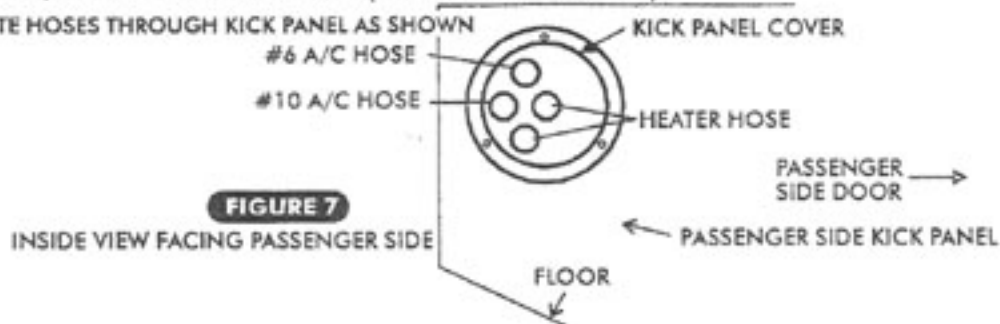
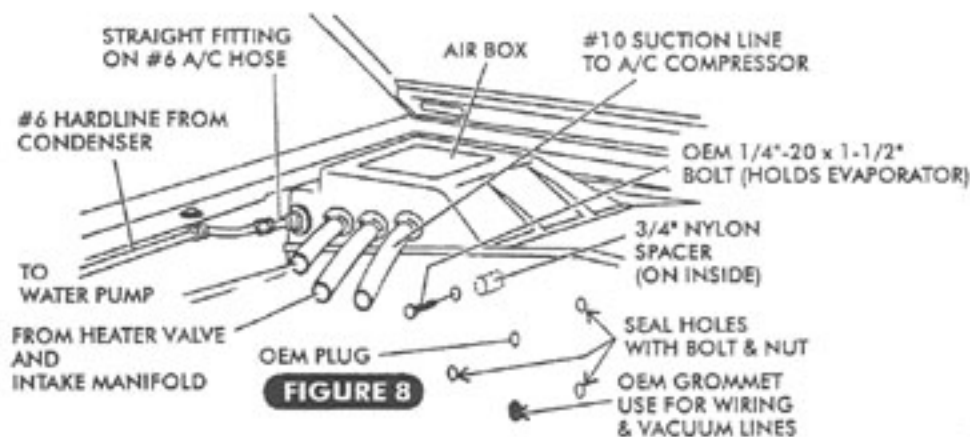
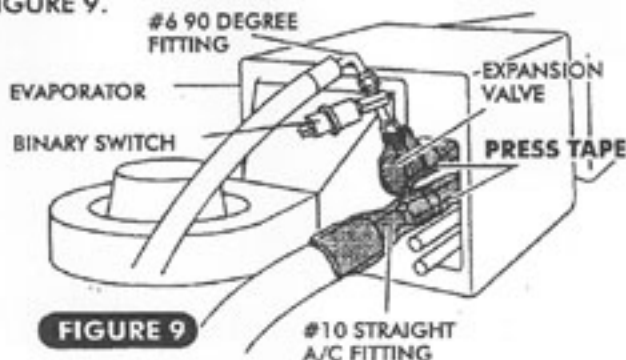
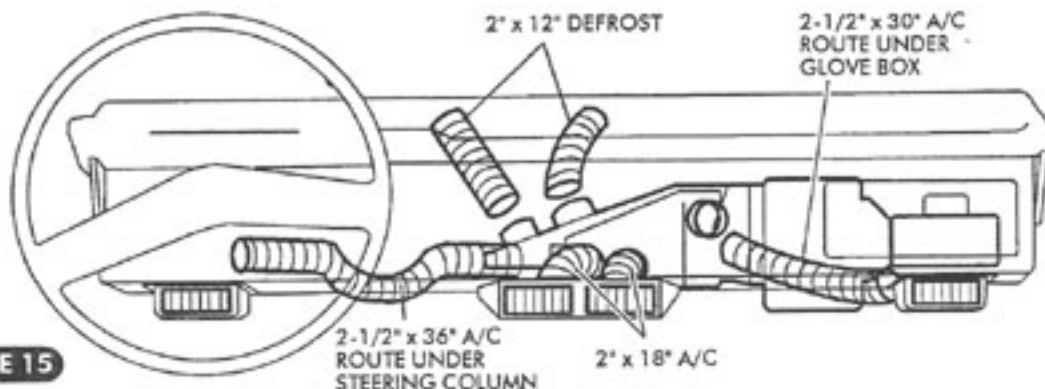

FIGURE 7
FIGURE 8
FIGURE 9
FIGURE 15
- LOCATE THE LARGE HOLE IN THE PASSENGER SIDE KICK PANEL. REACH INTO ENCLOSED AREA AND ENSURE DRAIN IS CLEAR. TRIAL FIT KICK PANEL COVER (SEE FIGURE 7) AND SECURE AFTER A/C HOSES ARE ALIGNED (SEE NEXT TWO STEPS).
- IT IS NECESSARY TO INSTALL AND ALIGN THE A/C AND HEATER HOSES BEFORE INSTALLING THE EVAPORATOR. SEE HOSE KIT INSTALLATION SECTION (PAGE 9) FOR ADDITIONAL INFORMATION. SEE FIGURES 7, 8 (PG. 4) & FIGURE 9 (PG. 5).
- LOCATE THE (SMALL) #6 HOSE. LUBRICATE 90 DEGREE FITTING AND O'RING (SEE FIGURE 16 ON PG. 7) AND CONNECT TO THE LIQUID LINE ADAPTER FITTING (WITH COMPRESSOR SAFETY SWITCH) FROM THE EXPANSION VALVE ON THE EVAPORATOR (SEE FIGURE 9). TIGHTEN FINGER TIGHT. ROUTE THE STRAIGHT END THROUGH THE PROPER HOLE IN KICK PANEL COVER (SEE FIGURE 7).
- LIFT THE EVAPORATOR INTO PLACE (SEE FIGURE 15 ON PG.7). VERIFY THAT THE #6 HOSE IS CENTERED THROUGH THE TOP HOLE IN THE KICK PANEL COVER (SEE FIGURE 7). LOWER THE EVAPORATOR AND TIGHTEN THE PROPERLY ALIGNED 90 DEGREE FITTING.
- LOCATE THE (LARGE) #10 HOSE. ROUTE END WITH STRAIGHT FITTING THROUGH THE PROPER HOLE IN THE AIR BOX COVER (SEE FIGURE 8) THEN THROUGH THE PROPER HOLE IN THE KICK PANEL COVER (SEE FIGURE 7). LUBRICATE FITTING AND O'RING (SEE FIGURE 16 ON PG.7) AND ATTACH TO THE EVAPORATOR COIL (SEE FIGURE 9, PG. 5).
- WRAP THE FITTINGS AND EXPANSION VALVE WITH PRESS TAPE PROVIDED PRIOR TO MOUNTING EVAPORATOR INTO PLACE. SEE FIGURE 9.
- ROUTE VACUUM LINE, HOT WIRE FROM CIRCUIT BREAKER AND COMPRESSOR CLUTCH WIRE THROUGH EXISTING HOLE IN THE FIREWALL ABOUT 10" BELOW THE #10 SUCTION LINE. SEE FIGURE 8 (PG. 4).
- CONNECT THE 2" x 12" DEFROST DUCTS TO THE PREVIOUSLY INSTALLED DEFROST DUCT ADAPTERS. SEE DUCT HOSE INSTALLATION SECTION AND FIGURE 15 (PG.7) FOR MORE INFORMATION.
- CONNECT THE VACUUM LINES AS SHOWN IN FIGURE 14, ROUTE THROUGH FIREWALL (FIGURE 8) AND CAREFULLY VERIFY PROPER OPERATION.
- LIFT EVAPORATOR INTO PLACE (SEE FIGURE 15, PG.7) AND START 1/4" x 20" x 1-1/2" BOLT FROM FIREWALL SIDE THROUGH EXISTING HOLE (SEE FIGURE 8, PG. 4). INSTALL 3/4" SPACER ONTO BOLT ON INTERIOR SIDE OF FIREWALL AND THEN INTO JACKNUT LOCATED ON EVAPORATOR CASE. THIS WILL POSITION THE UNIT INTO PLACE AND ALIGN THE REMAINING ATTACHMENT POINTS.
- ATTACH THE 2" x 12" DEFROST HOSES TO THE EVAPORATOR (SEE FIGURE 15, PG.7) WHILE IT IS LOOSE.
NOTE: WITH THE UNIT IN PLACE, STRETCH THE DUCT HOSES TIGHTLY TO THEIR CORRESPONDING OUTLETS ON UNIT AND RECHECK THE LENGTH. INSURE THAT THE HOSES ARE PULLED TIGHTLY WITH A MINIMUM OF KINKS OR SHARP BENDS. THIS WILL INSURE MAXIMUM AIR FLOW. SEE FIGURE 15.
- ROUTE VACUUM LINE, HOT WIRE FROM CIRCUIT BREAKER AND COMPRESSOR LEAD THROUGH EXISTING HOLE IN FIREWALL 10" BELOW THE #10 SUCTION LINE. SEE FIGURE 8 (PG. 4).